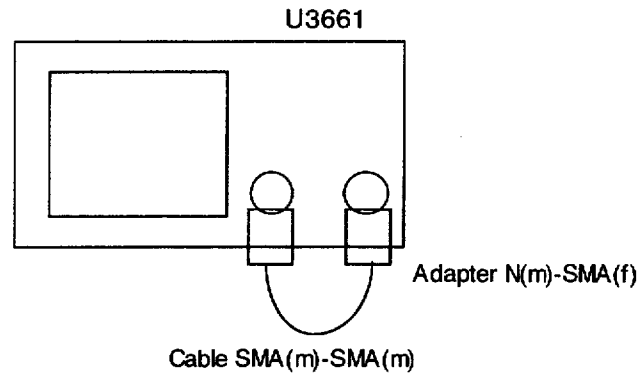

Figure 3-23 Setup of Output Switching Accuracy Test
2. Connect equipment as shown in Figure 3-23